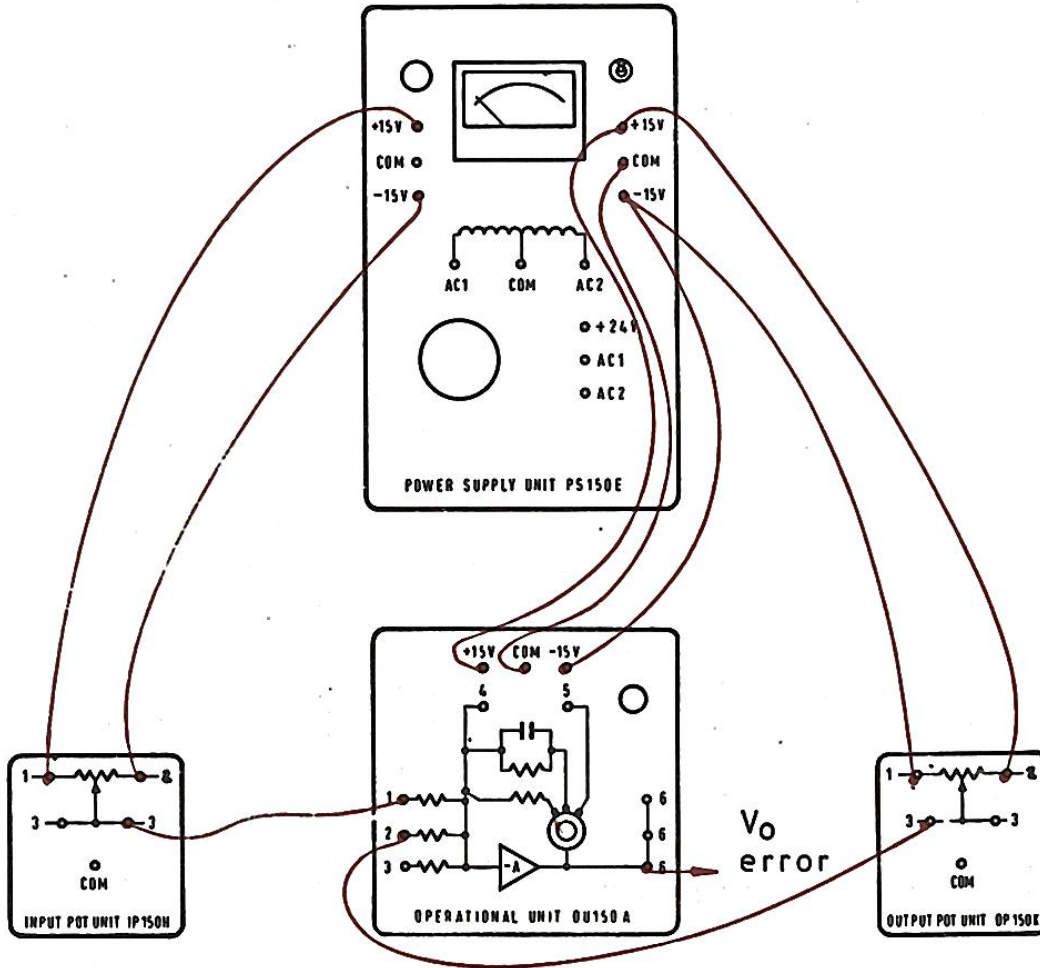

Figure-4.2: Error Channel Set Up
Set up the units as in figure-4.2 but do not yet connect the two amplifier input leads.
- The resistance between slider (3) and the input terminal (1) is same on both input and output potentiometers for all angular positions. If not, then loosen the dial and make an adjustment.
- As in figure-4.2, connect the rotary potentiometer with opposite polarities. This is very important otherwise the signals when summed will not cancel.